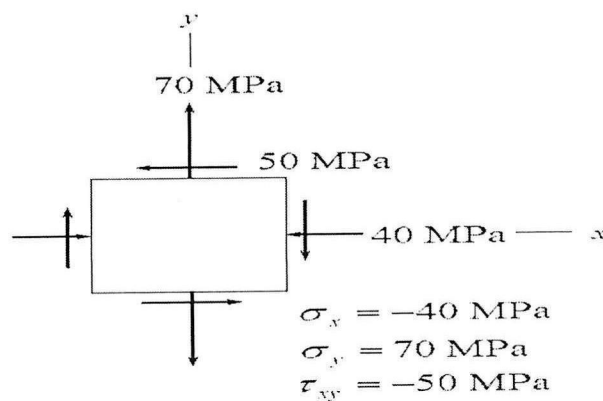

Figure Q6(a)
- Q6** The state of plane stress at a point is represented by the element shown in **Figure Q6(a)**.
- (b) Determine the equivalent state of stress if an element in **Figure Q6(a)** is oriented 15° clockwise from the element shown. Sketch the state of plane stress on an element in each case. (9 marks)